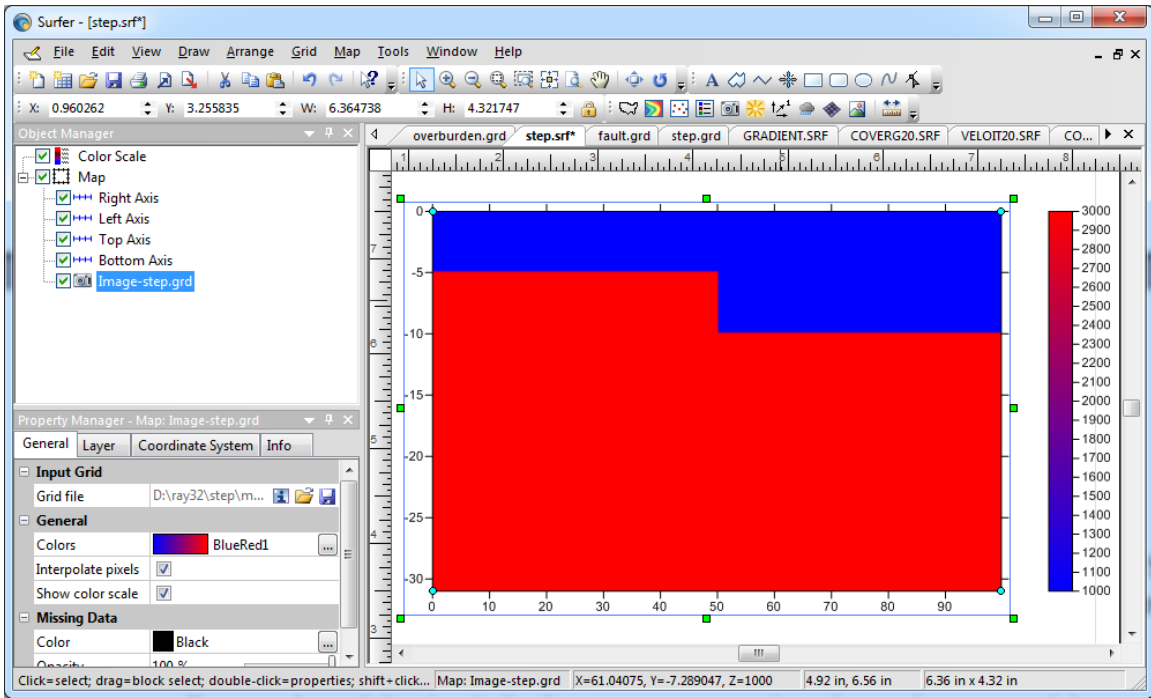
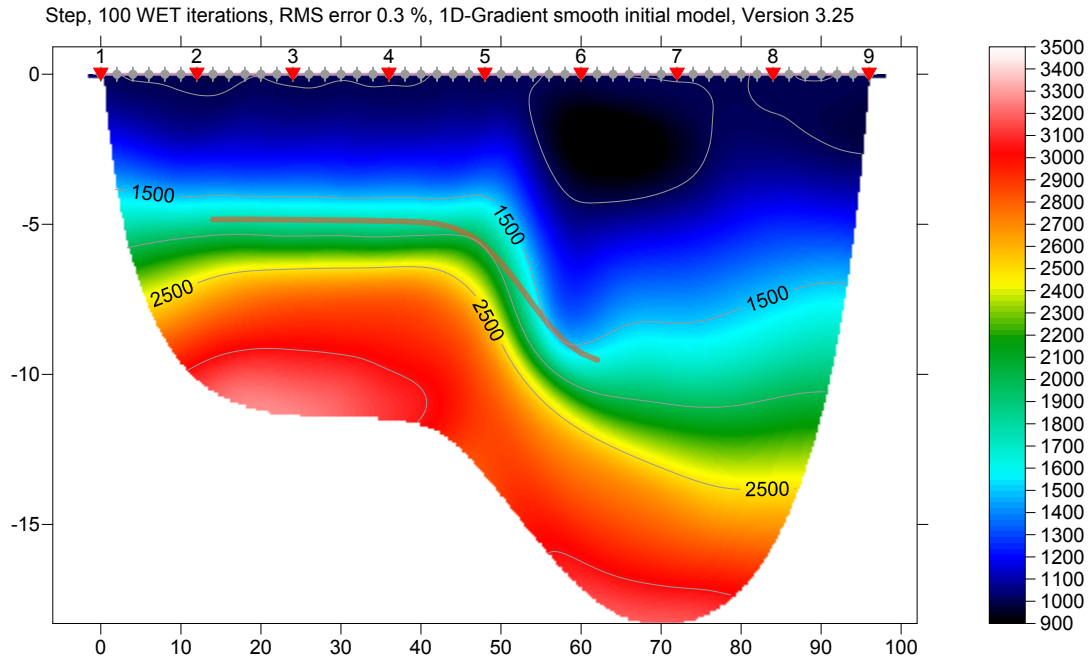
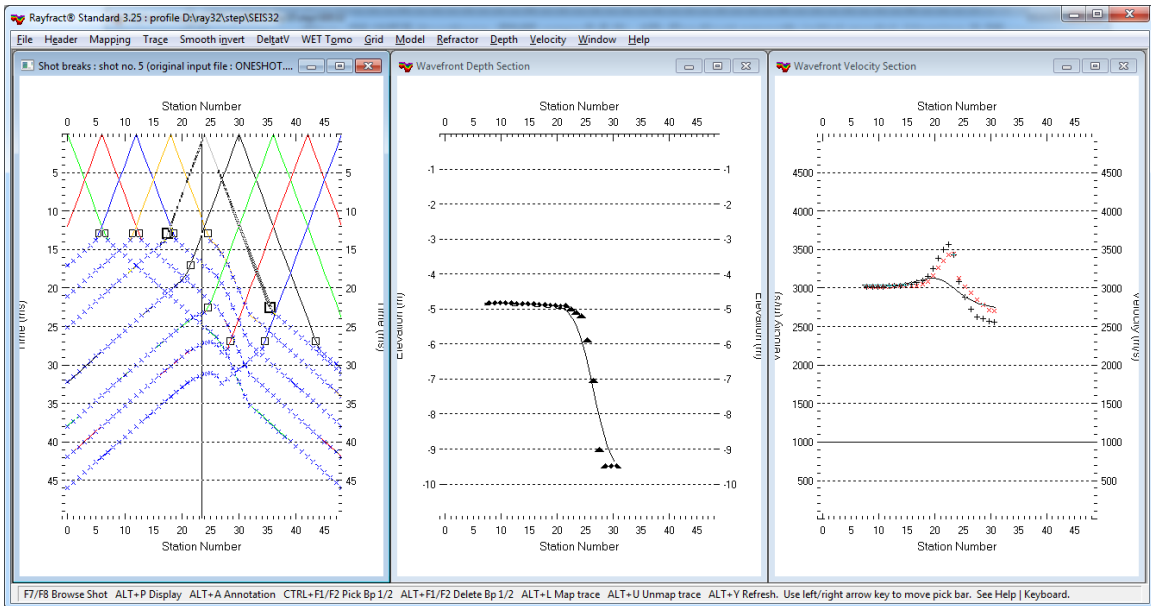

Fig. 4 : Image step model grid
Fig. 8 : Smooth inversion, 100 WET iterations. Basement refractor obtained with Wavefront method plotted as brown line.
Fig. 11 : left : Refractor|Shot breaks, center : Depth|Wavefront, right : Velocity|Wavefront
Click on *OK button* to generate the final step model. Select *Map|New|Image Map...* and our STEP.GRD file. Click the resulting plot with left mouse key. Select *View|Managers|Object Manager*. Left-click *Image-step.grd*. Click on *Colors bar* in *Property Manager|General tab*, and load *Color scale BlueRed1*. Check *Interpolate pixels* and *Show color scale*. Left-click *Map icon* in *Object Manager*. Click *Scale tab* in *Property Manager*, uncheck *Proportional XY*, set *X Scale|Length* to 6.0 in and *Y Scale|Length* to 4.0 in to obtain Fig. 4 :
- click *buttons Accept parameters* and *Start tomography processing* for Fig. 8 and 9
Obviously Fig. 8 is a better approximation than Fig. 7, of the true step model (Fig. 4) . This shows that increasing the WET iteration count from 20 to 100 makes sense, at least in this case and most of the time.
- select *Depth|Wavefront*, press ALT+M, set *Base filter width* to 5, press ENTER for Fig. 11
Plot the basement refractor shown in Fig. 11 (center) on WET tomograms (Fig. 7, Fig. 8) :
- click on *Window Wavefront Depth Section* (center) in Fig. 11
- select tomogram grid \RAY32\STEP\GRADTOMO\VELOIT100.GRD for Fig. 8